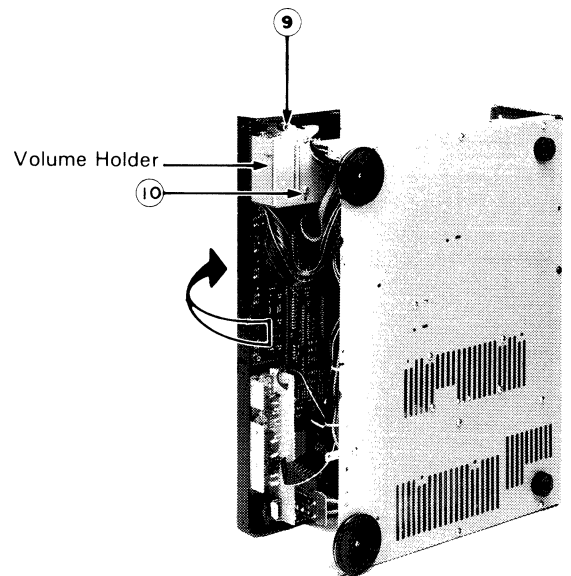

Fig. 2
3. Turn the front panel over the arrow direction. (See fig.2.)
6. Remove two screws ⑨ and ⑩ securing the volume holder. (See fig.2.)